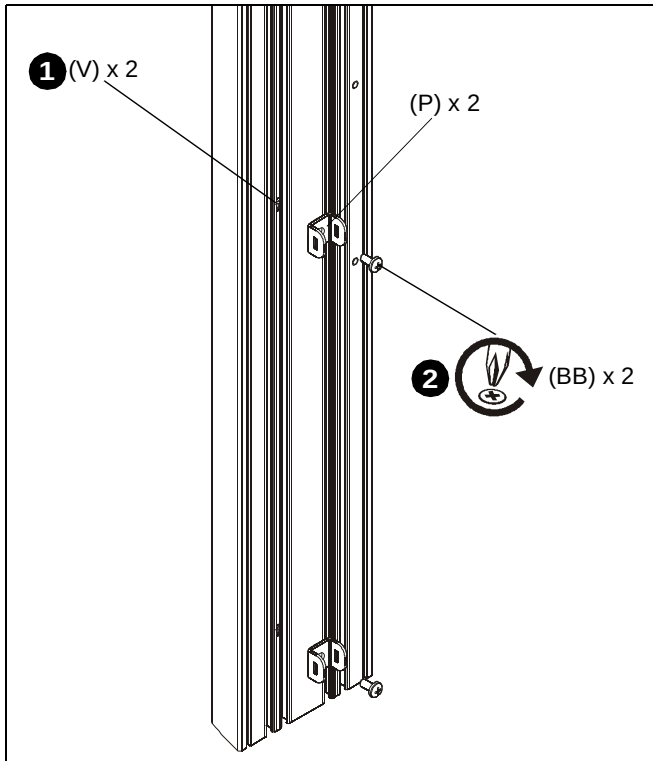

Figure 11
1. Slide two #10-24 square nuts (V) into side columns (H) prior to attaching column extenders (J and K).
2. Install two #10-24 x 3/8" Phillips pan machine screws (BB) through two cable clips (P) and into #10-24 square nuts (V). (See Figure 11)